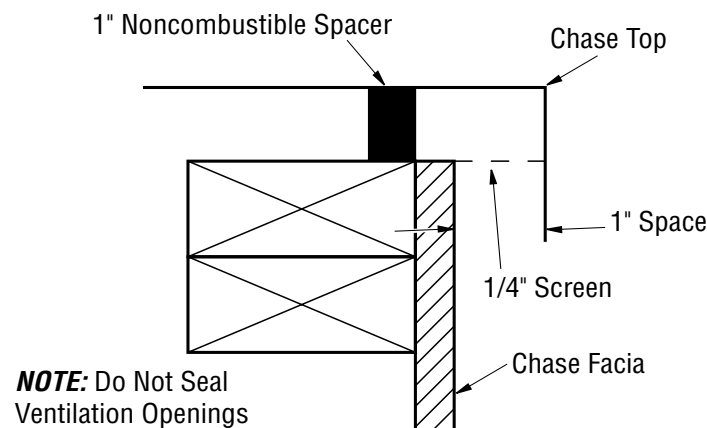

Figure 27 - Chase Top Flashing
1. Attach noncombustible spacers at each corner and place flashing over chase (see Figure 27). Secure flashing through sides with 8-penny nails or sheet rock screws.